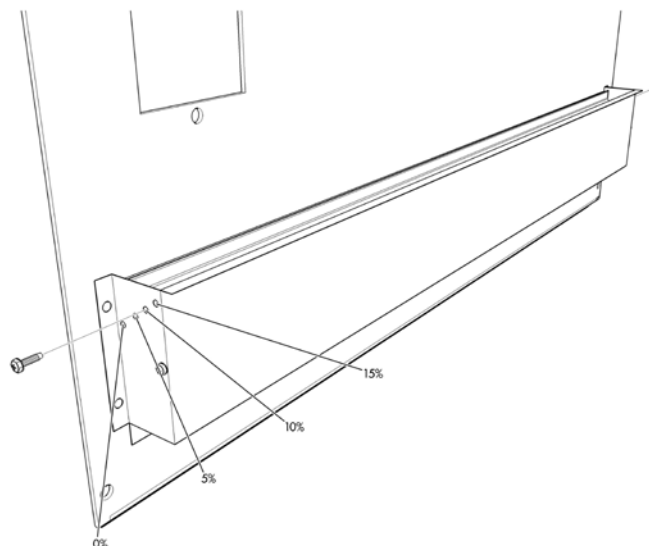

Figure 4. Fresh Air Hood Damper, Models MAA1024A-MAA1072A
3. Refer to Figure 4. Attach the bottom support bracket to the wall using appropriate 3/8" diameter hardware.